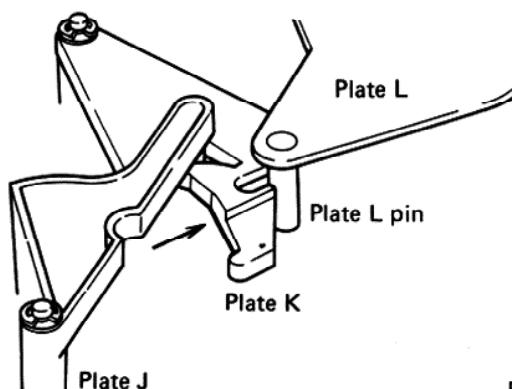

Fig. 24
- 12 Although plate K tends to return, since arm lead-in is completed restrains plate K (Fig. 24).